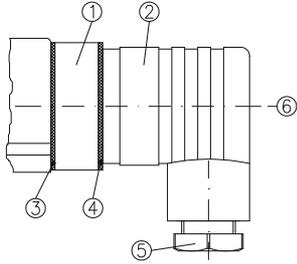

Fig. 7
- ↖ Loosen the central screw ⑥ M3x35 and disconnect the cable socket ② from the connector ① (⇒ Fig. 7). Pull the central screw ⑥ out of the cable socket ②.